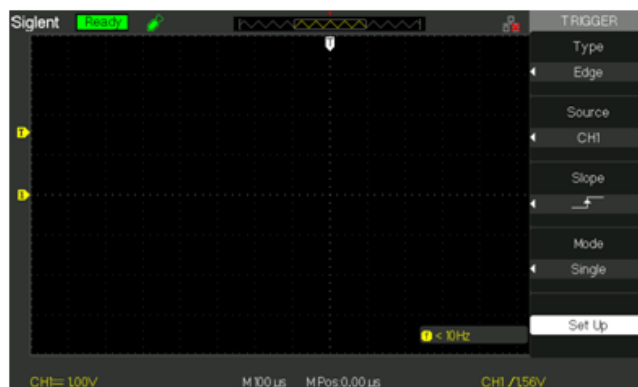

Figure 3
4. Check experimental conditions by pressing [Trigger Menu]. It should be same as shown in Fig. 3.